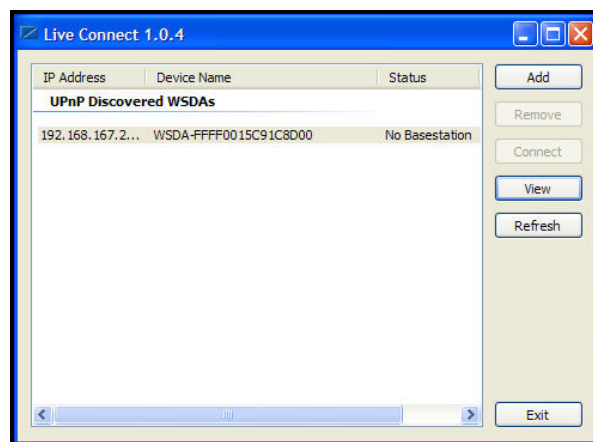

Figure 1. Live Connect window
- The Live Connect window will appear, automatically scan for WSDA[®], and in a moment display your WSDA[®] IP address and serial number as shown in Figure 1.